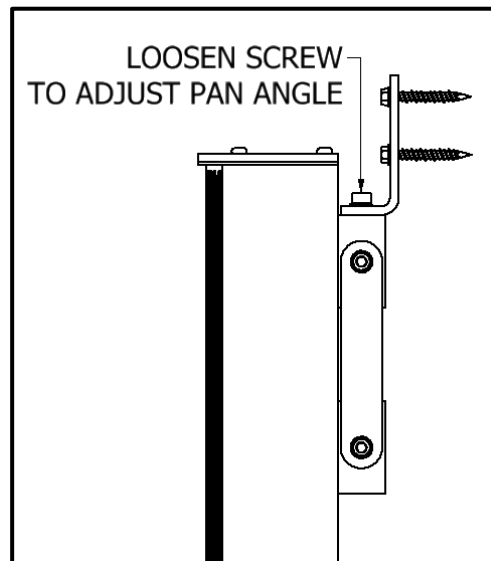

Figure 13. 90243A-803 and 90243A-804 Wall Mounting – Step 6
- To aim the speaker left or right, loosen the top screw and pivot the unit to the desired position as shown in Figure 13. Once the speaker is in the appropriate position, retighten screw. Pan angle is adjustable within +/- 50°.